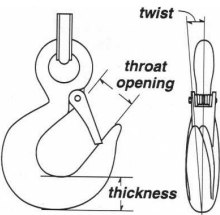

Figure 2 - Load Hook Inspection
- Check the throat opening, thickness, and twist of the snap hook. Replace the hook if it shows signs of damage. **See figure 2.**